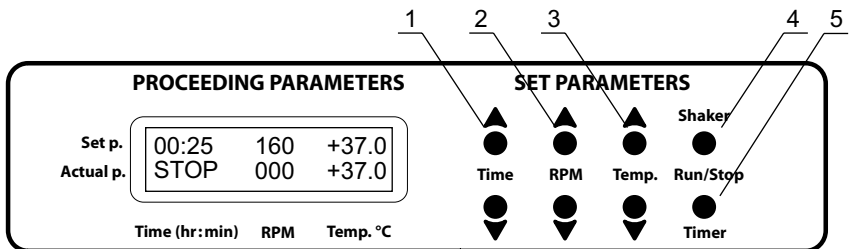

Fig.2 Control panel
- 4.3. Using the ▲ and ▼ **Time** keys (Fig. 2/1) set the required working time interval in hours and minutes (increment - 1 min). Pressing the key for more than 3 sec will increase the increment.
- 4.4. Using the ▲ and ▼ **RPM** keys (Fig. 2/2) set the required shaking speed (increment 10 RPM). Pressing the key for more than 3 sec will increase the increment.
- 4.5. Using the ▲ and ▼ **Temp.** keys (Fig. 2/3) set the required temperature (increment 0.1°C). Pressing the key for more than 3 sec will increase the increment.
4.7. Press the **Shaker-Run/Stop** key (Fig. 2/4). The platform will start rotating and the timer indicator will start counting up the time interval (with 1 min precision).
Caution! At the end of the set time period the platform movement is stopped automatically, but the heating can be stopped ONLY manually by reducing the temperature using the ▼ **Temp.** key (Fig. 2/3 - the lower key) till the OFF sign appears in the upper line of the display.
4.10. The timer can be reset during operation if required. Press the **Timer-Run/Stop** key twice (Fig. 2/5) (first – to stop the timer, second – to restart the timer).